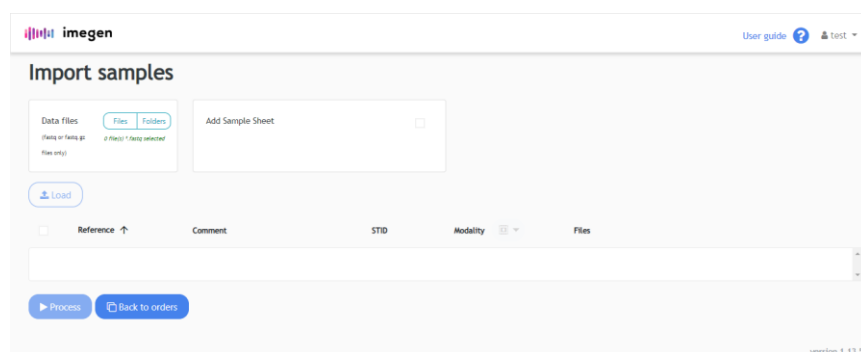

Figure 25. Screen for importing the fastq files and the sample sheet and commence the analysis request.
1. Select the "Import Samples" on the main screen (*Orders* tab) to begin the analysis of the sequenced samples. This way, you will access the file import screen (Figure 25). On this screen, the 12 fastq files associated with each sample must be imported; optionally, the *Sample Sheet* file, which will allow us to import simultaneously all the files from the same sequencing run, can also be imported.